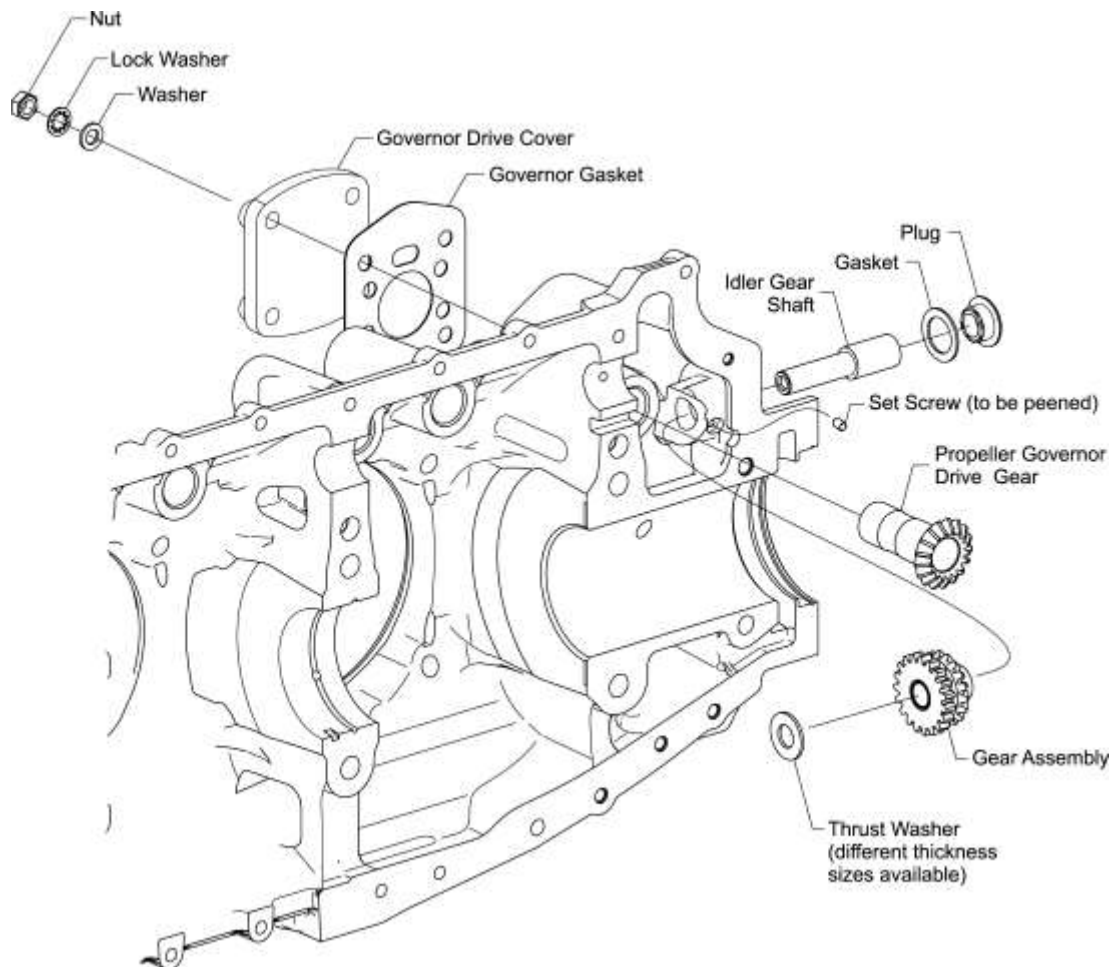
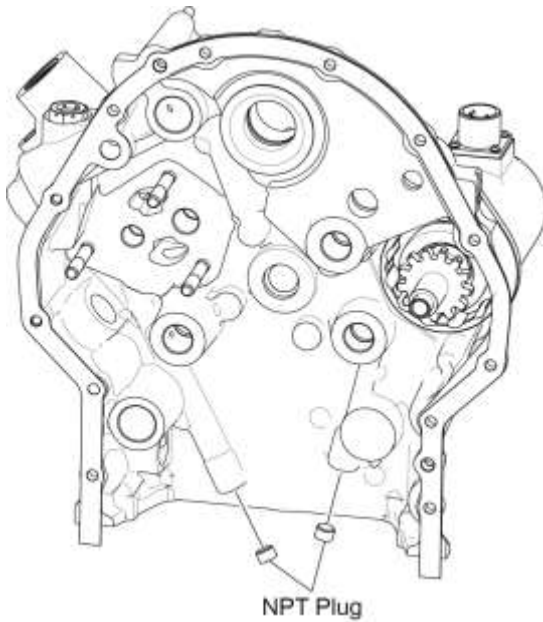

Figure 14
Figure 15
- (1) If not already done, remove the four nuts, lock washers and washers (Figure 14) from the propeller governor or the propeller governor drive cover. Discard the lock washers.
- (2) Remove the propeller governor (refer to the airframe manufacturer's instructions) or the propeller governor drive cover and governor gasket. Discard the governor gasket.
- (3) Cut and remove the safety wire/cable from the idler gear shaft plug (Figure 14).
- (4) Remove the idler gear shaft plug and gasket from the crankcase. Discard the gasket.
- (5) Remove and discard the set screw from the propeller governor idler gear shaft. If the set screw was peened or staked in the hole, remove any debris.
- (6) Support the propeller governor idler gear shaft and, simultaneously remove the idler gear shaft, gear assembly, and thrust washer. Discard the thrust washer.
- (7) Pull the propeller governor drive gear away from the crankcase.
- Q. Remove the threaded oil (NPT) plugs from the accessory housing, oil sump/induction system, and crankcase to facilitate cleaning (Figures 15, 16, and 17).